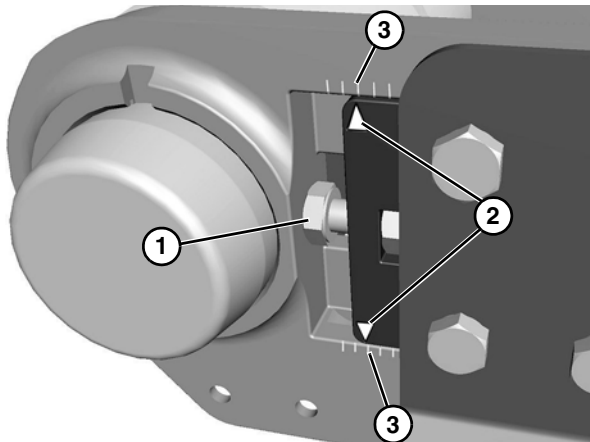

Figure 35
1. Tighten or loosen bolts (**Figure 35, item 1**) on each side to correct tracking. (Align the same arrows (**Figure 35, item 2**) and marks (**Figure 35, item 3**) on each side of the conveyor as a starting point for tracking the belt.)